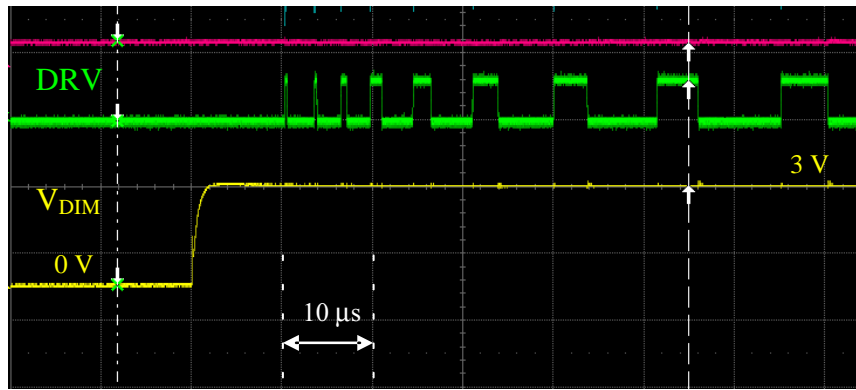
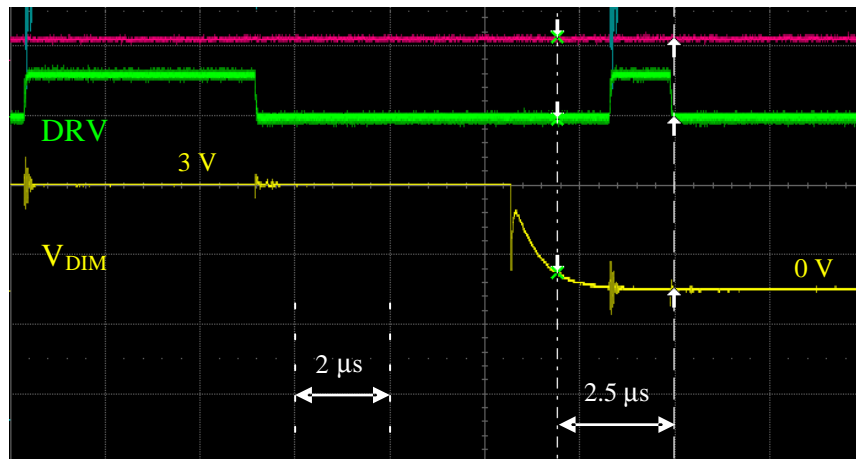

Figure 12. PWM Dimming – DIM Pin Rising Edge
Figure 13. PWM Dimming – DIM Pin Falling Edge
- The NCL30086 needs some time to provide the full current. As shown by Figure 12, the first drive pulse
- As illustrated by Figure 13, it takes about 2.5- $\mu$ s time to have the drive output disabling when the DIM pin transitions to low state. The practical effect of this delay depends on when the last drive pulse occurs compared to the DIM signal falling edge but in general, it cannot compensate for above one.
115 V rms, 60 Hz. The dimming signal was a 1-kHz, variable duty-ratio square-wave signal varying between 0 and 3 V (yellow signal of Figure 12 and Figure 13).